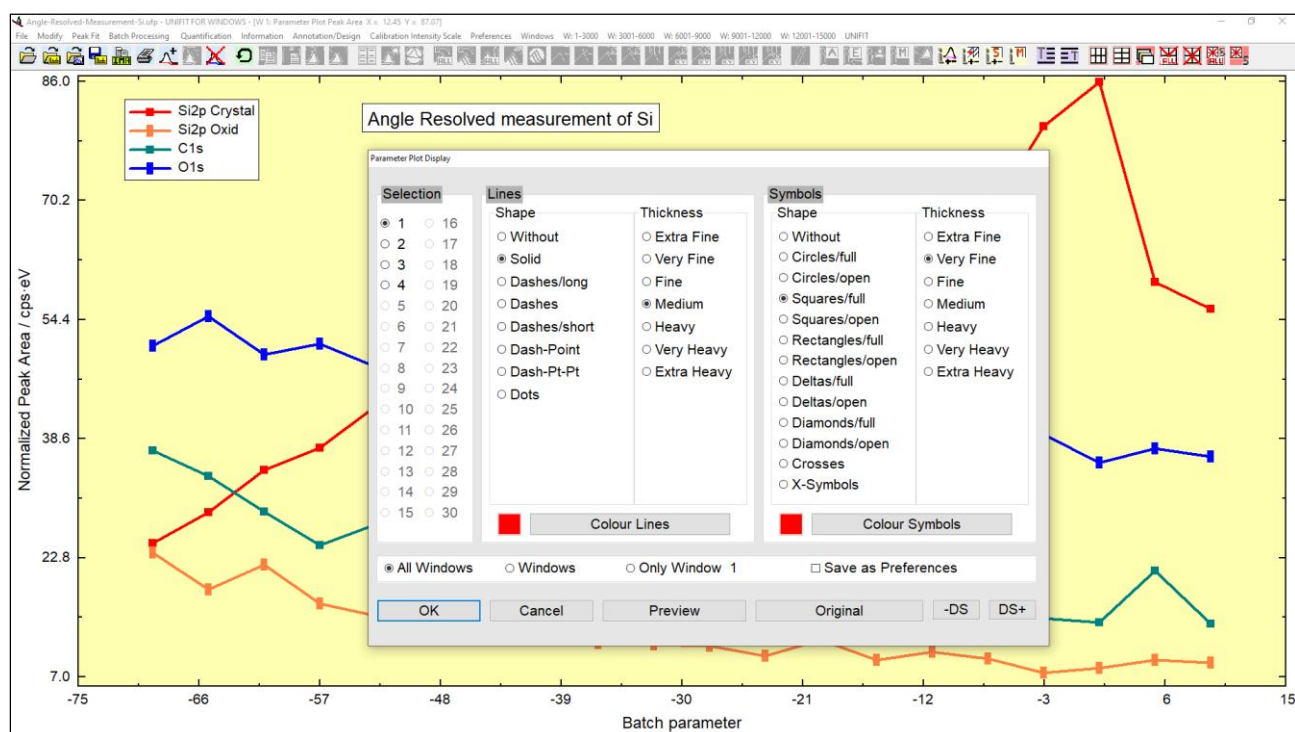

Fig. 6 Screen shot: Dialogue for setting the colour, shape and thickness of the parameter plot displayed on the screen
- e) Parameter Plot (see Fig. 6)for the: